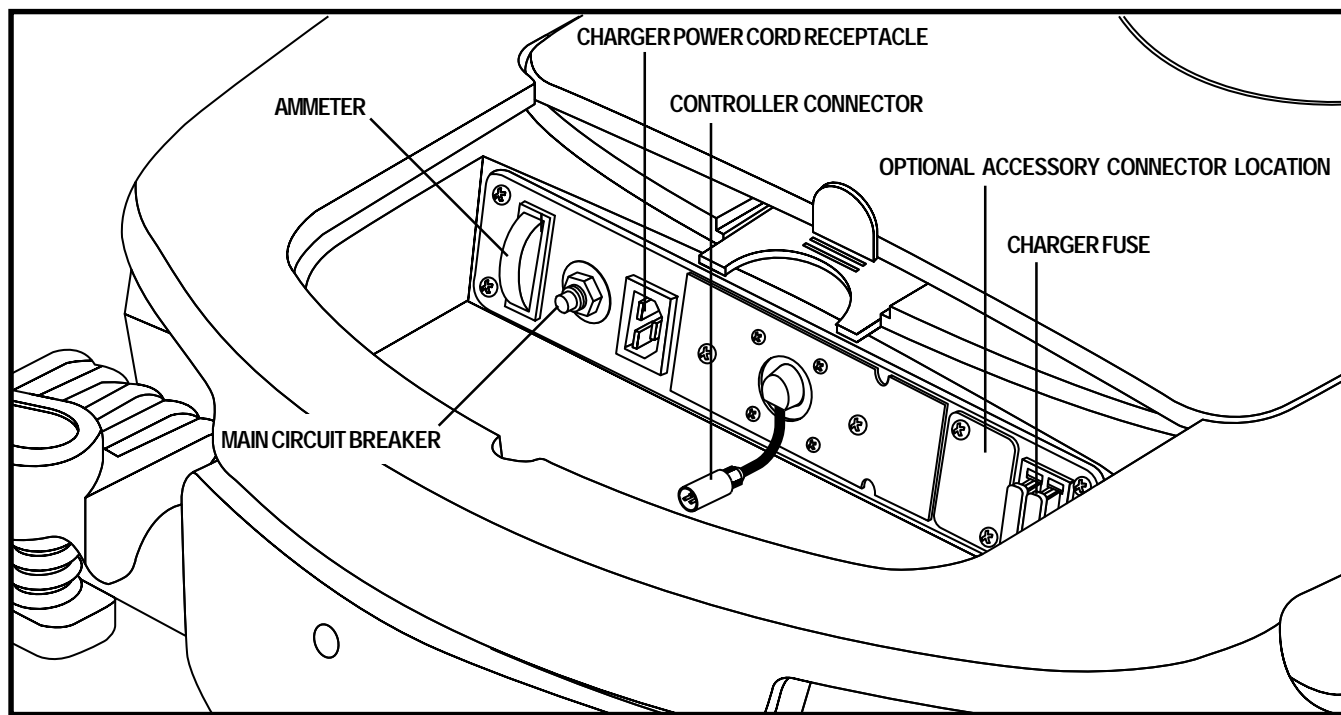

Figure 6. Electronics Tray (Shown with Optional Onboard Charging Components)
8. Plug the controller connector into the electronics tray. See figure 6.